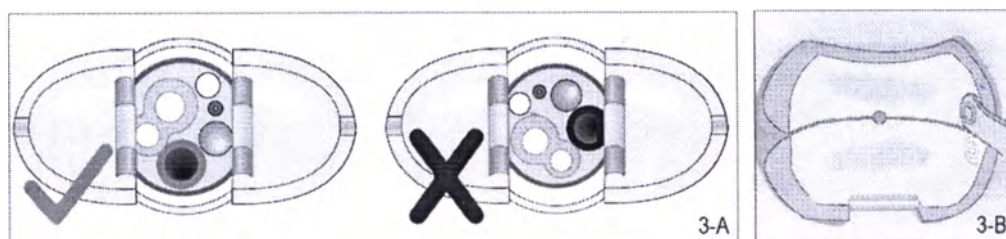

Fig 3. Mounting the device cap
- Thereafter, push the cap with slight lateral tilting movements until it reaches stoppers on the cap, whereupon it will be reliably fixed. Figure 3-A shows correct location of the cap; Figure 3-B shows the endoscopic perspective.